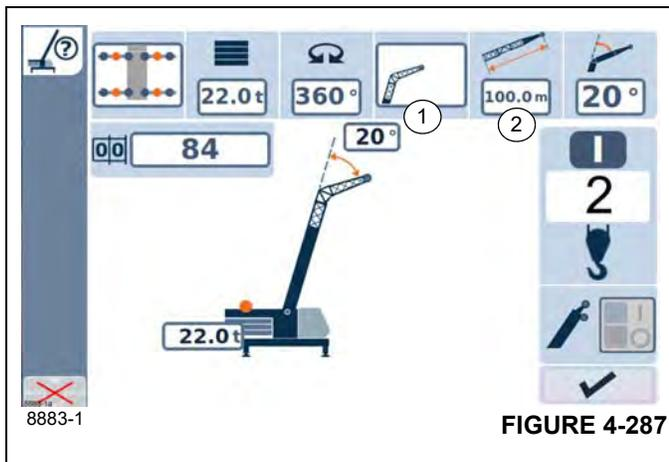

FIGURE 4-287
There are 2 choices: main boom and boom extension (1), (Figure 4-287). Then, if a boom extension is selected, the operator chooses the boom extension length (2) which includes inserts and stinger.